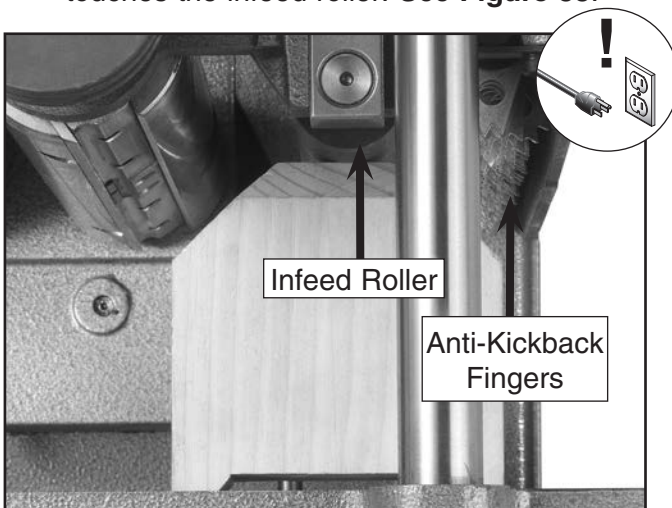

Figure 33. Feed roller height inspection.
2. Raise the table until the gauge block barely touches the infeed roller. See **Figure 33**.